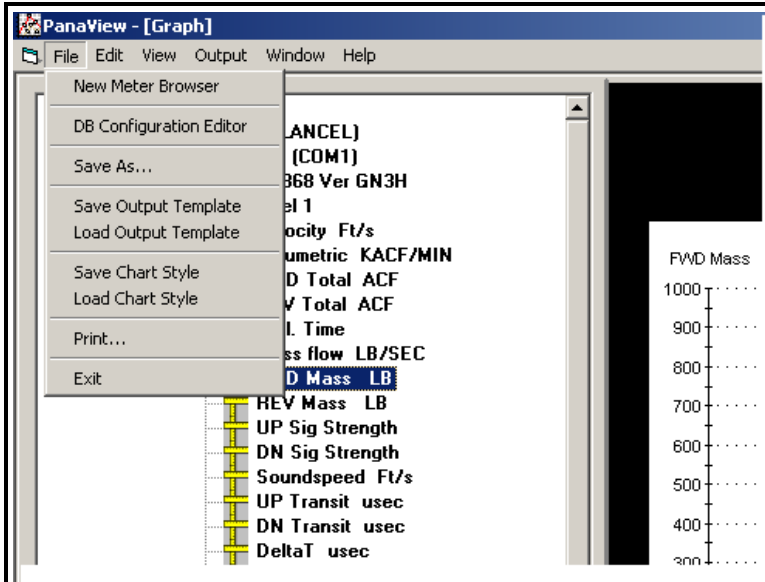
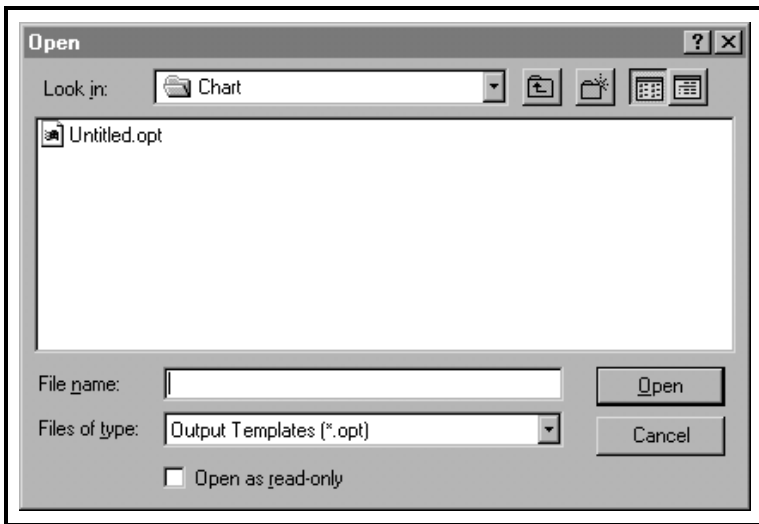
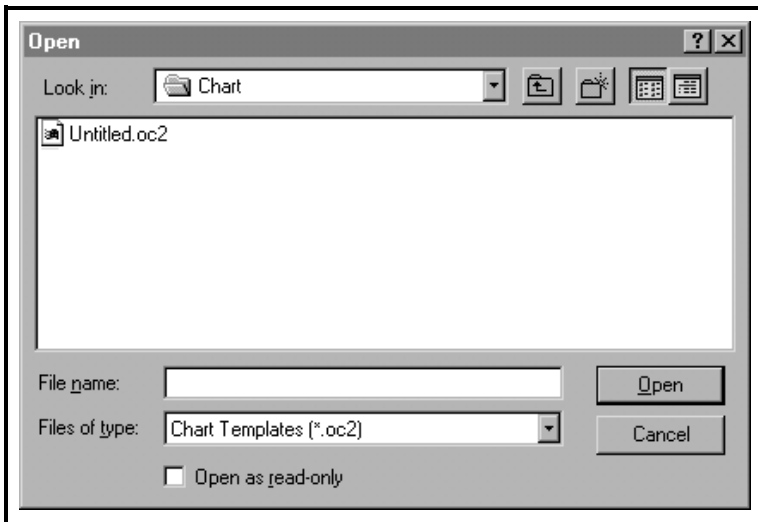

Figure 6-6: The File Menu for Graphs
Figure 6-10: Opening an Output Template
Figure 6-11: Opening a Chart Style
After setting up a chart (graph) as described in the previous section, you will find that several new menu options are now available in the “File” menu (see Figure 6-6 below).
- Open the “*Output*” menu and click on the “*Graphing - From Template*” option (see Figure 6-1 on page 6-2) or open the “*File*” menu and click on the “*Load Output Template*” option (see Figure 6-6 on page 6-11). If any output templates (*.opt) have been saved, select the desired file at the dialog box shown in Figure 6-10 below. Then, click on the [Open] option button to load the properties and parameters to be graphed from the output template selected.
- Open the “File” menu and click on the “Load Chart Style” option (see Figure 6-6 on page 6-11). If any chart templates (*.oc2) have been saved, select the desired file at the dialog box shown in Figure 6-11 below. Then, click on the [Open] option button to load the graph properties from the output template selected.